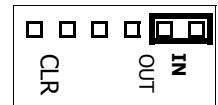

Fig. 2: "IN" Position
3. Move the MEMORY BACKUP CELL jumper J4 to the IN position to remove power from the static RAM, thus making installation safer for the memory components (see Fig. 2).
**Note:** Be sure the MEMORY BACKUP CELL jumper is in the IN position to provide memory data retention (see Fig. 2)..